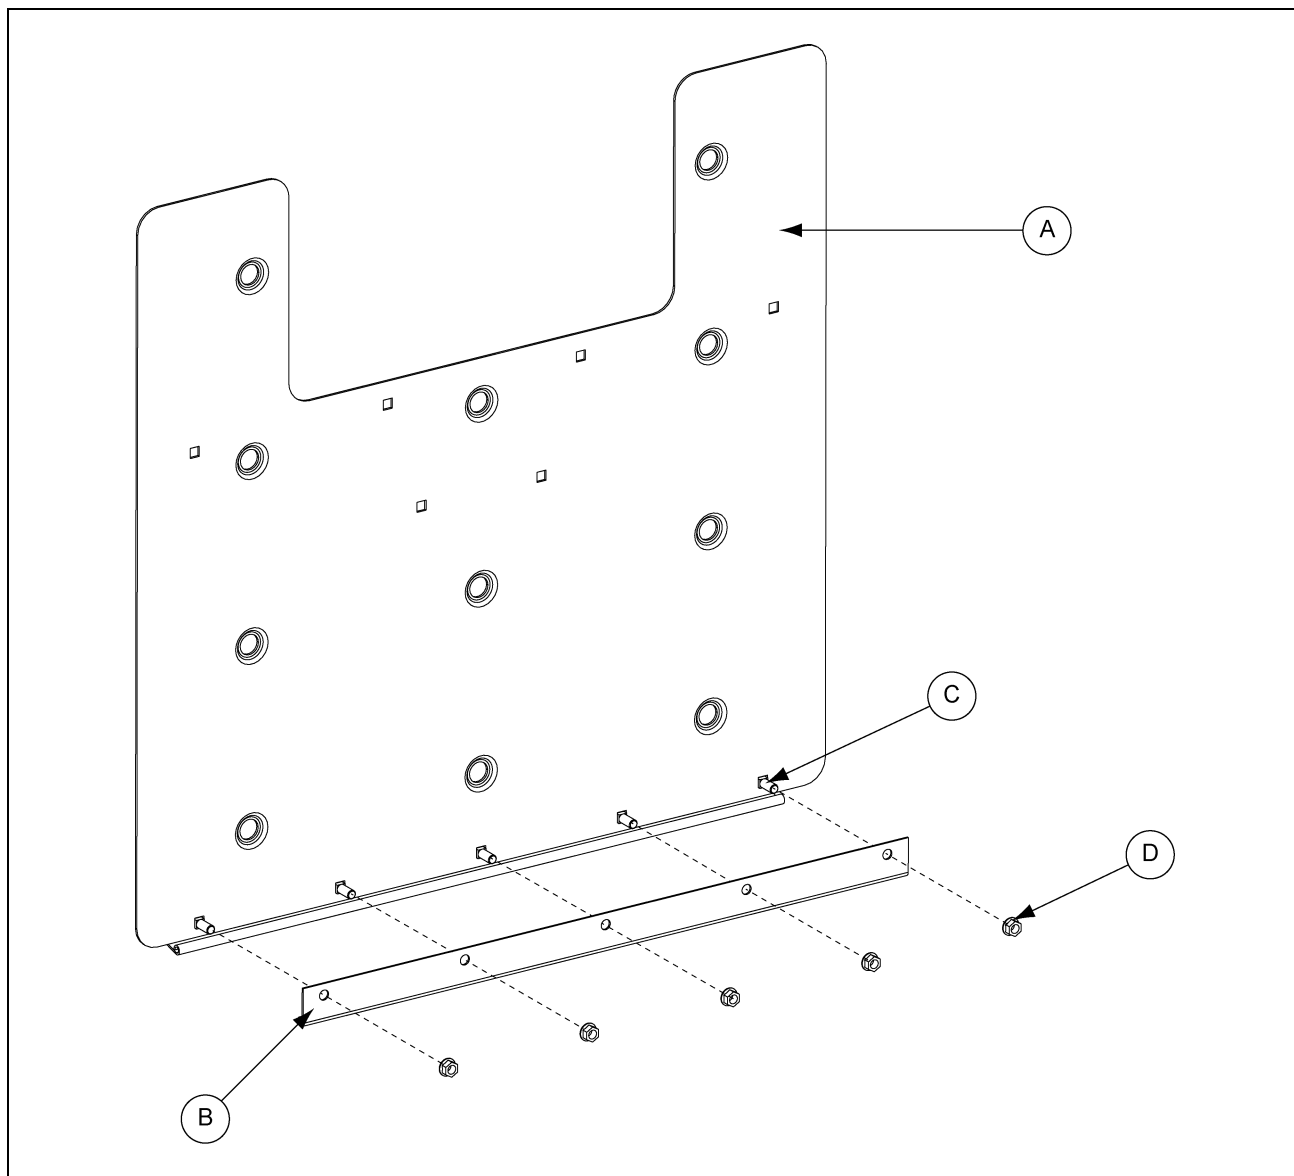

Figure 11A
1. Attach hatch hinge (HP1624HH) (B) to the hatch deck door (HP1624HDD) (A). Orient hinge so that it opens the desired direction. (See Figure 11A.) Fasten using 3/8" x 1" carriage bolts (S-3585) (C) hardware.